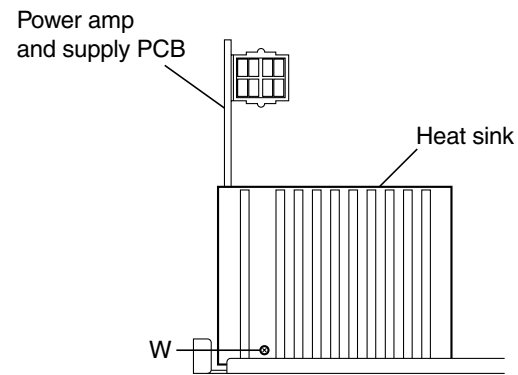

Fig.31
■ Removing the 3-pin regulator (See Fig.31 and 32)